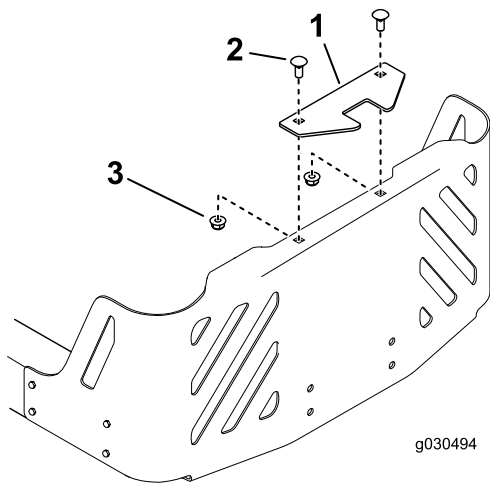

Figure 10
Note: The stabilizer bracket is used only on 2015 and newer models (Figure 10).
- 1. Install the stabilizer bracket to the engine guard using 2 carriage bolts (5/16 x 3/4 inch) and 2 locknuts (5/16 inch) (Figure 10).